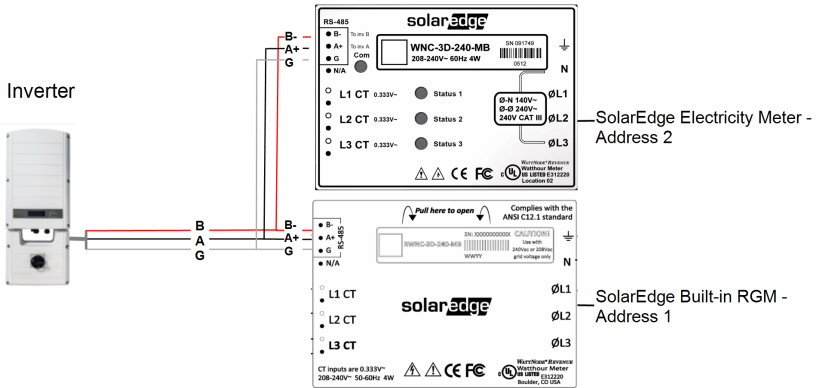

Figure 17: Meters connection to an RGM inverter
1. Connect the external meter to the RGM as shown in *Figure 17*: